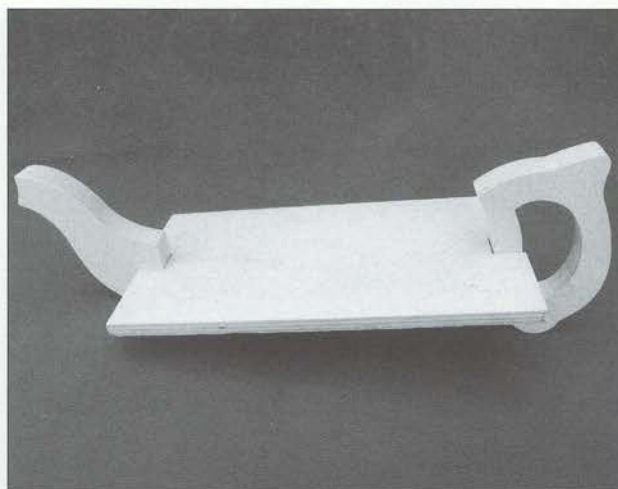

Fig 10.5 The handle (J) and spout (K) are glued into place in the slots cut in C.
Refer to Fig 10.5. Glue the handle (J) and the spout (K) into the slots in D. Set aside the assembly until the glue has dried.